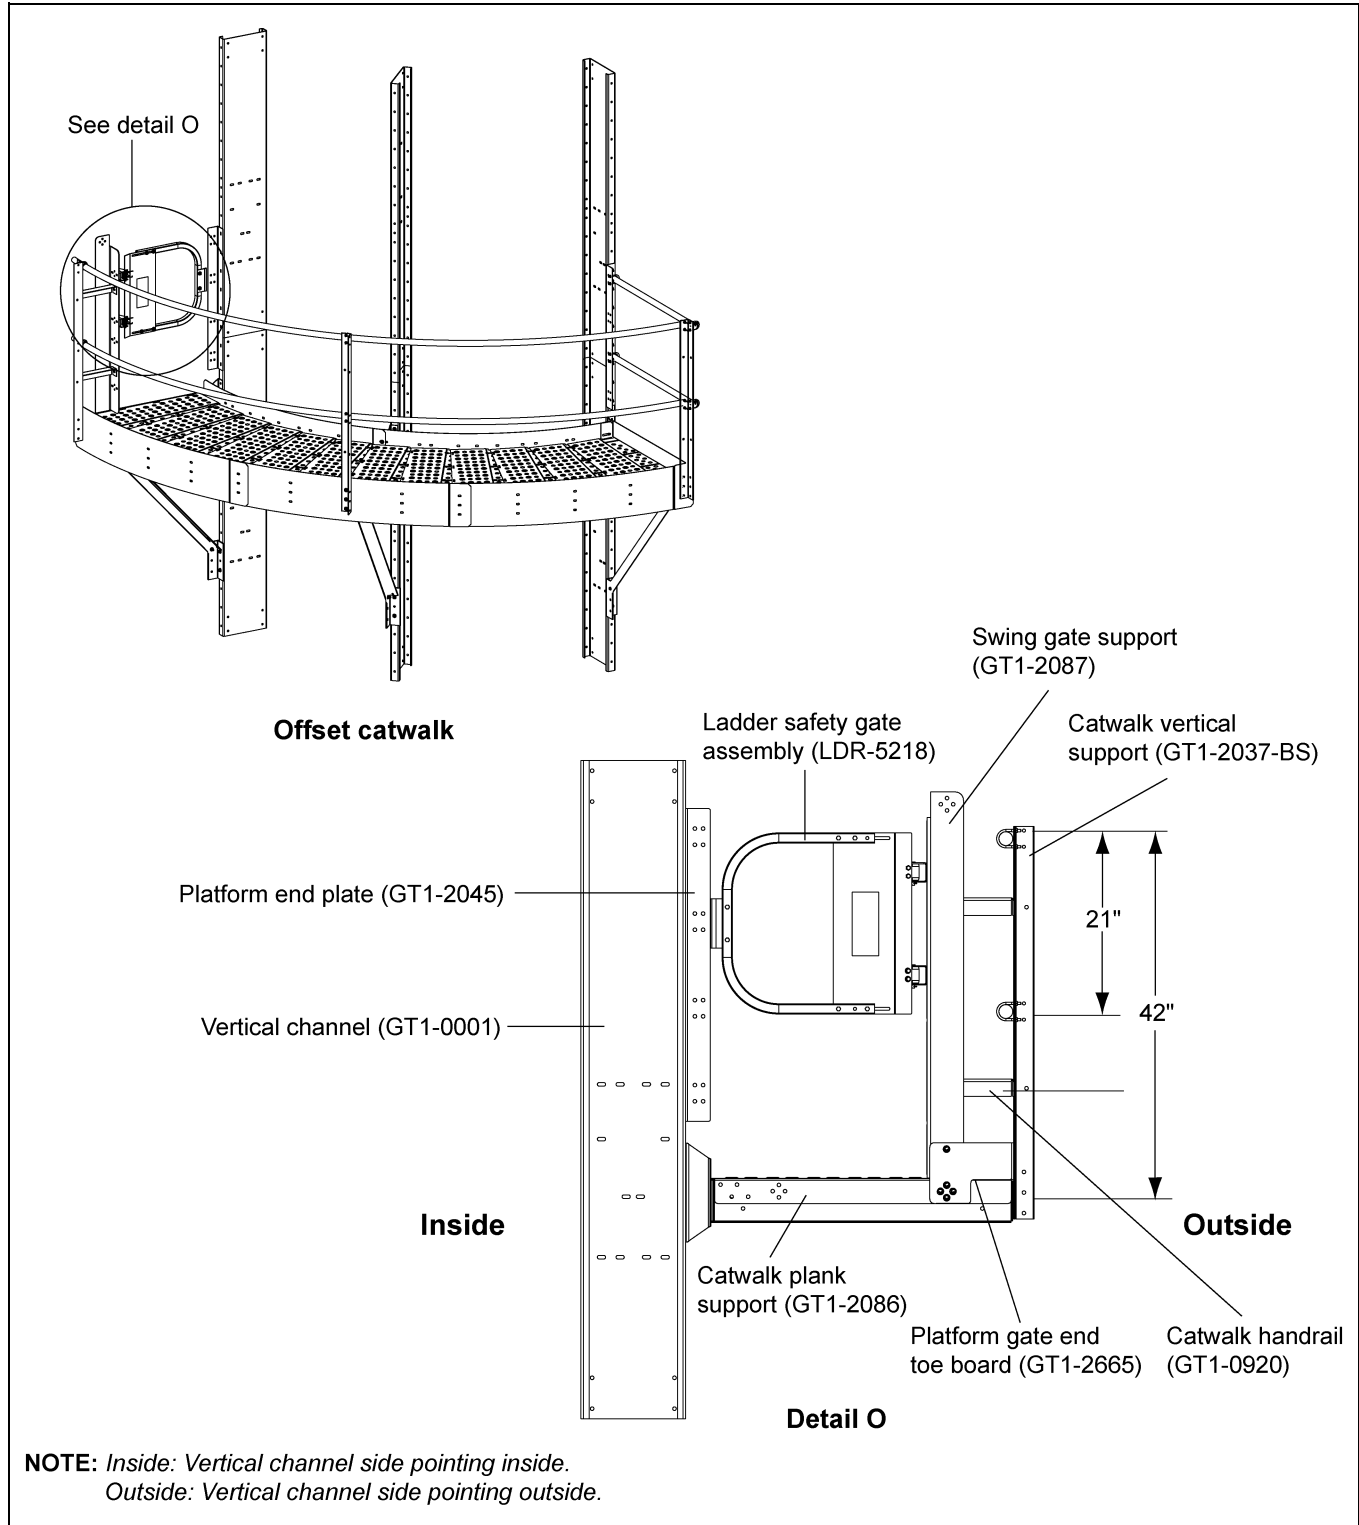
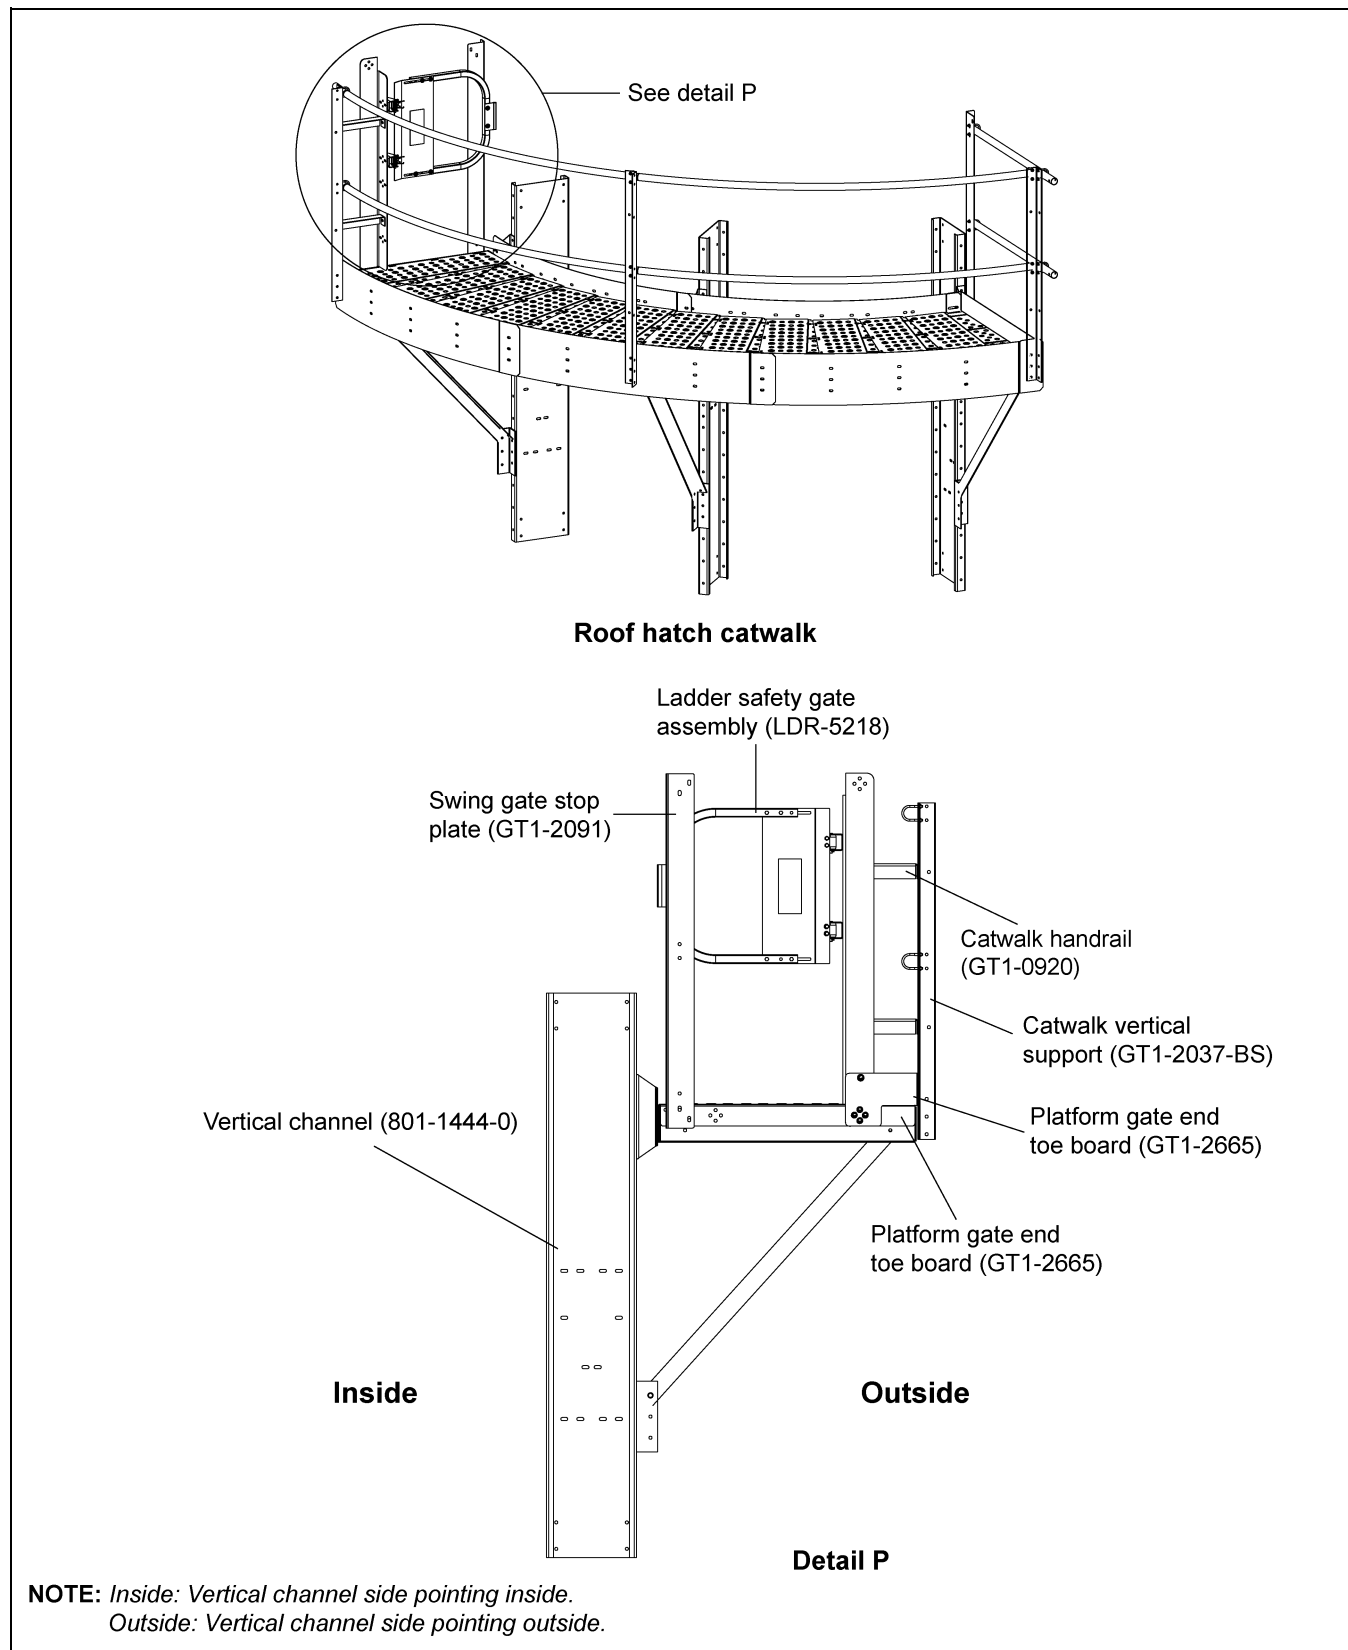

Figure 6Y Offset Ladder Safety Cage Assembly to Swing Gate Support (GT1-2087)
Figure 6Z Roof Hatch Ladder Safety Cage Assembly to Swing Gate Stop Plate (GT1-2091)
1. Install the ladder safety gate assembly (LDR-5218) to the swing gate support (GT1-2087) using 3/8"-16 x 1" JS grade 8 or grade 8.2 bolts (S-7485) and 3/8"-16 ZN grade 5 nuts (S-968). The distance between the plank and handrail is 42". (See Figure 6Y below and Figure 6Z on Page 64.)